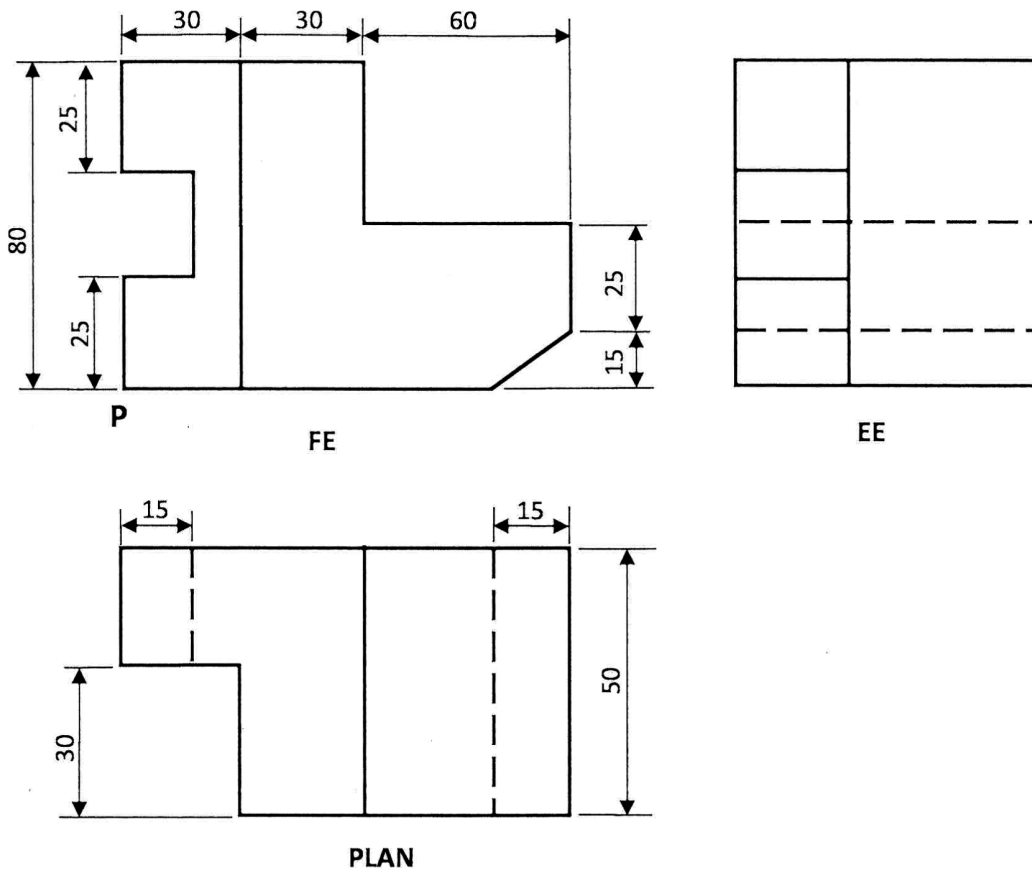

Figure 1
- 11 **Figure 1** shows three orthographic views of a block drawn in first angle projection.